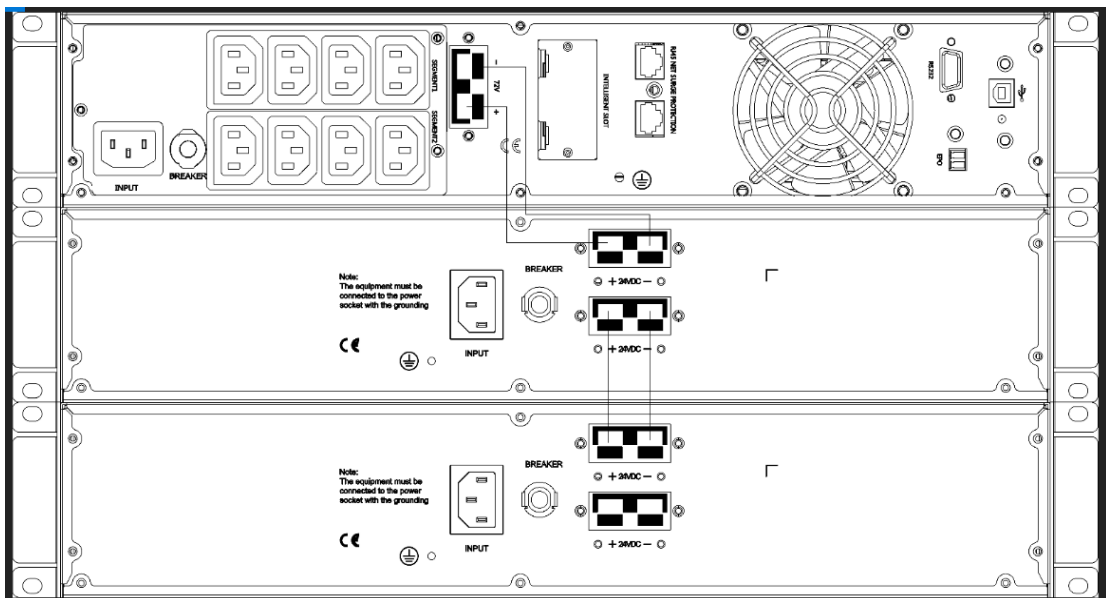

Figure 9: The installation for UPS and battery boxes
- **The installation between UPS and External battery boxes can be referred to Figure 9**
- (1) Remove the ups & external Battery boxes Battery Terminal cover plate;
- (2) Remove the standard battery connection cable from the battery box;
- (3) Connect the corresponding voltage battery box according to the UPS battery voltage;
- (4) External Battery Supports up to 4 PCS.